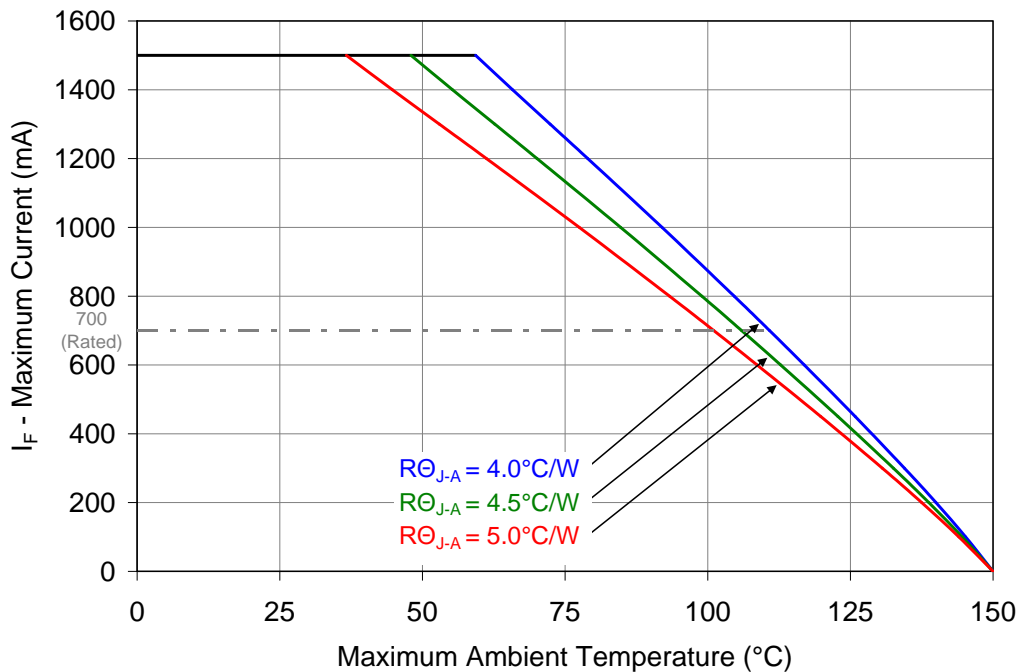

Figure 12: Maximum forward current vs. ambient temperature based on $T_{J(\text{MAX})} = 150^\circ\text{C}$.
- Maximum DC forward current is determined by the overall thermal resistance and ambient temperature. Follow the curves in Figure 12 for current derating.
Notes for Figure 12: